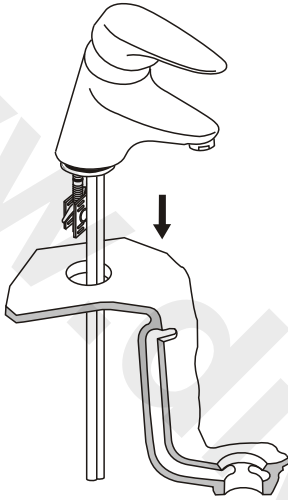

Figure 6
- Hold the fixation bracket in the vertical position and place through the tap hole ensuring that the 'O' ring remains above the platform as this acts as a watertight seal between the two surfaces, (Figure 6).